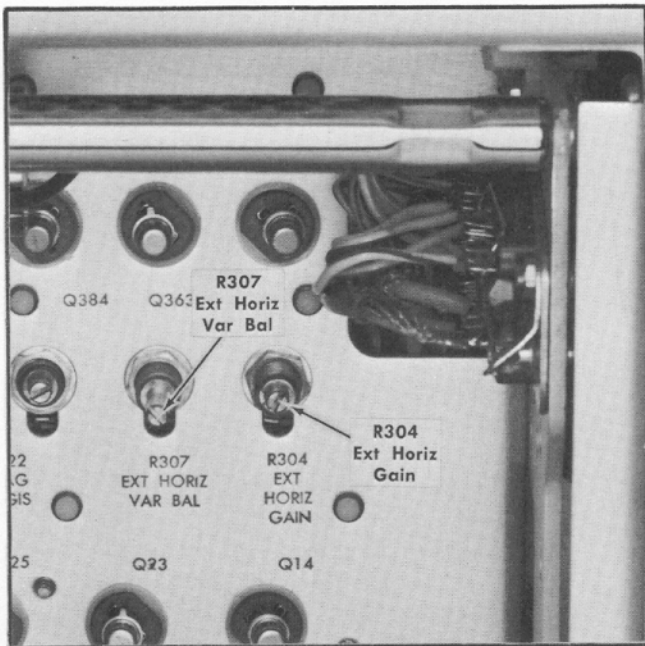

Fig. 5-14. Location of Ext Horiz Var Bal, R307, and Ext Horiz Gain, R304.
- f. ADJUST—Ext Horiz Var Bal, R307 (see Fig. 5-14) to position spot at the center of the CRT when the VARIABLE control is in the fully counterclockwise position. Some spot movement may occur as the VARIABLE control is turned through the middle of its range.
- e. ADJUST—Ext Horiz Gain, R304 (see Fig. 5-14) for 5 centimeters of horizontal deflection.